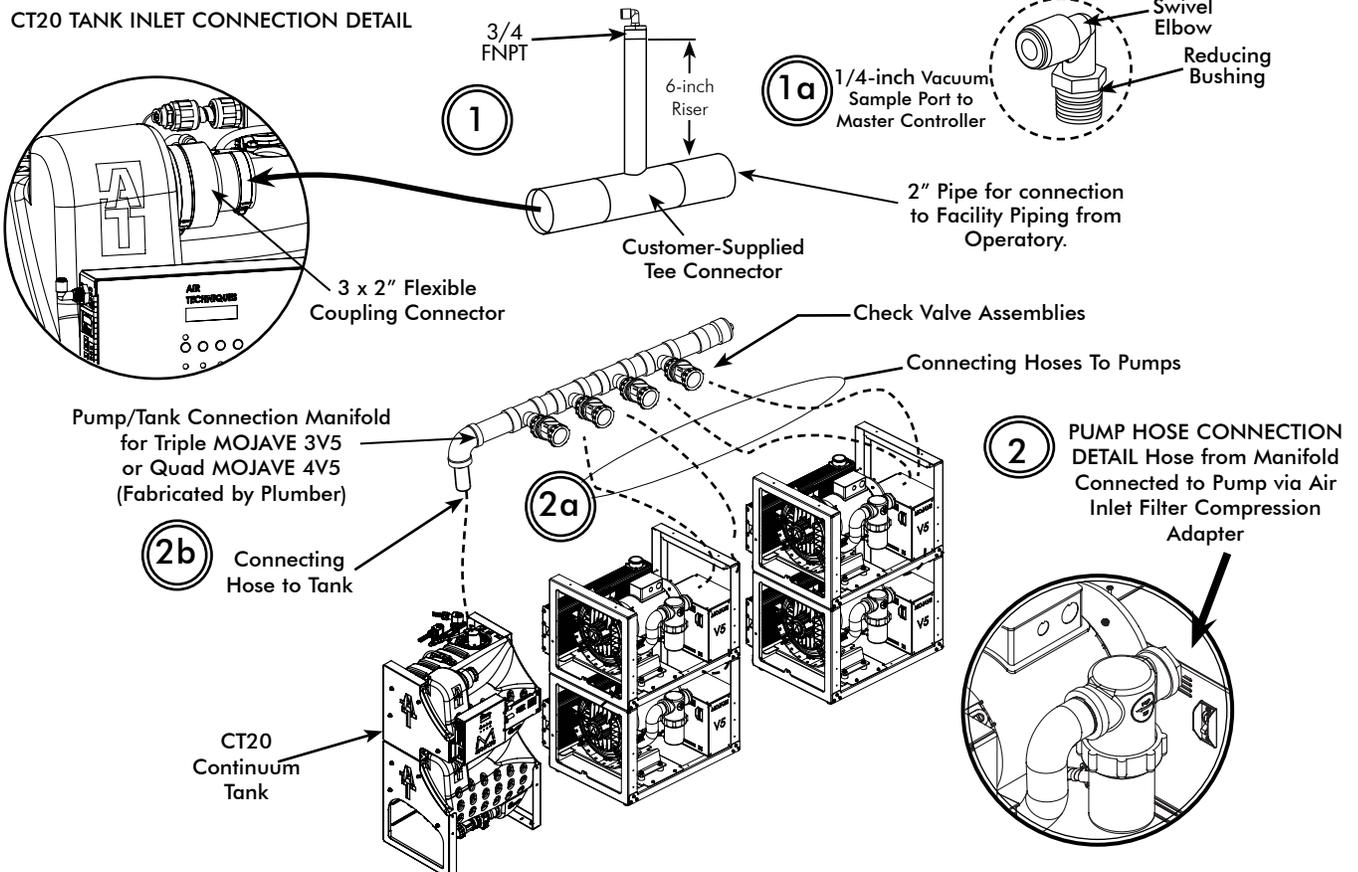

Figure 12. 3V5 or 4V5 System Connection Detail Using Accessory Kit
5. Using customer-supplied 3/4 inch and 2 inch pipe, fabricate an inlet tee connector as shown by Figure 12. Install an 1/4-inch elbow connector to the 3/4 inch riser of the tee connector using an 3/4 inch bushing. Both the elbow connector and bushing are provided in accessory pack H5243 or H5289.
8. Measure and record distance between each connection point as shown in the corresponding connection detail diagram, Figure 12.
1. **Suction Line to Tank Inlet Connection.** Refer to Figure 12, item (1).
- d. Install a length of 1/4 inch OD Urethane Tubing (P/N 51453) supplied in the MIK4 kit between the vacuum sample port and the vacuum inlet port of the Master Controller. See Figure 12, item (1a).
2. **Tank Air Outlet to Pump Inlets Connection.** Refer to Figure 12, item (2).
- b. Connect 1 1/2" ID, clear hose (P/N 54521) cut for installation between the tank outlet port and the Pump/Tank Connection Manifold. Secure by tightening the hose clamps of the 2" flexible couplings. See Figure 12, item (2b).